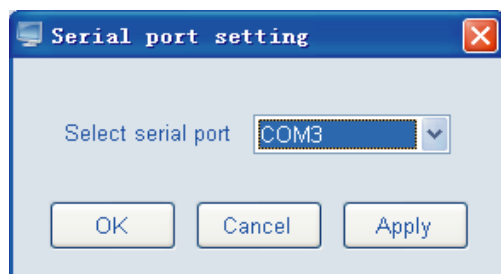
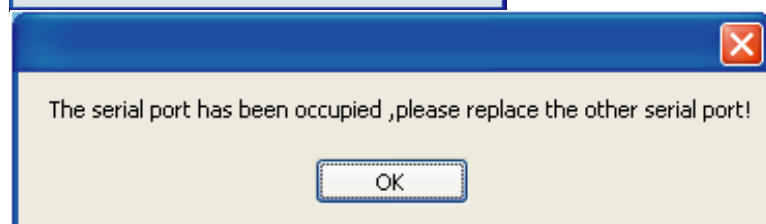
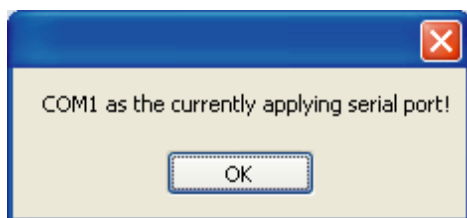

Fig.4-51
Fig.4-52
Fig.4-53
- ① Click “Serial port set”, window as Fig. 4-51 will pop up—— modify or select the serial port in computer. The available serial port source is captured by software, and saved at the optional list for user to select. Provided that the selected serial port has been occupied, once click “Apply” or “Enter”, a message box as Fig. 4-52 will pop up; if the serial port as is the current applying port, once click “Apply” or “Enter”, a message box as Fig. 4-53 will pop up.